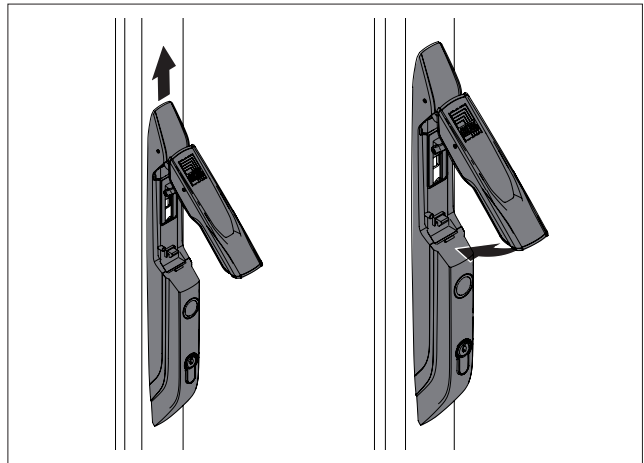

Fig. 14: Locking the handle (right-hand hinge / left-hand hinge accordingly)
- Push the handle upwards and lock it (fig. 14).